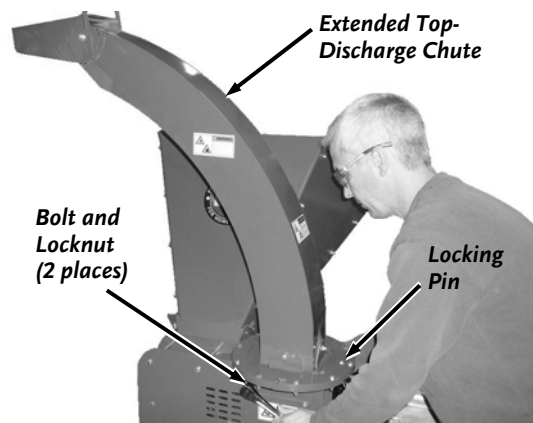

Figure 66
3. Position the Extended Top-Discharge Chute onto the Chipper with the Locking pin on the outside (side furthest away from the hopper) (**Figure 66**).